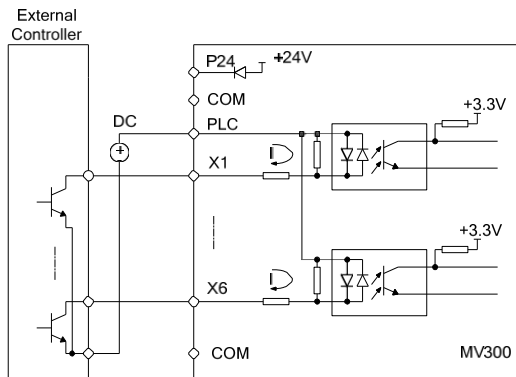

Fig. 3-15 The source connecting mode when using the external power supply
3) The source connecting mode when using the external power supply (**note:** be sure to remove the short circuit plate between the user terminal PLC and P24) is as shown in Fig. 3-15.